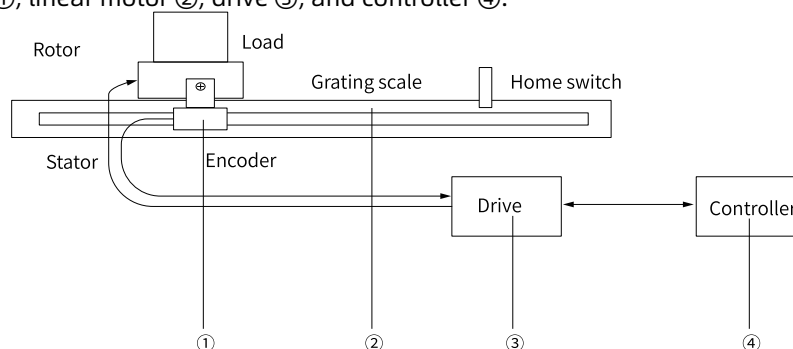

Figure 12-9 Structure of linear motor operation accuracy compensation
2. Apply accuracy compensation control, as shown in “Figure 12-9” on page 491 . This stage involves the encoder ①, linear motor ②, drive ③, and controller ④.